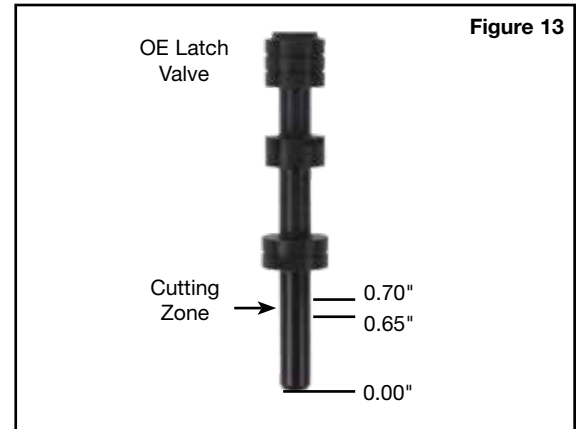

Figure 13
- Measure between 0.65–0.75" (cutting zone) from the base of the valve stem (**Figure 13**).